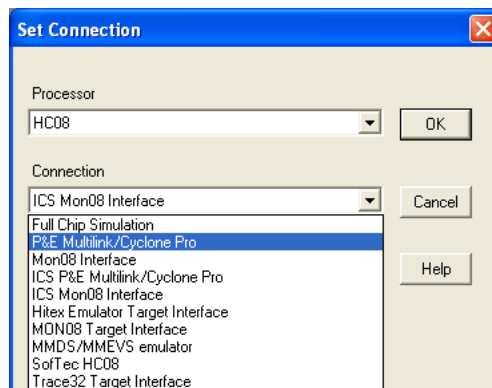

Figure 8-8: Set P&E Multilink/Cyclone PRO
1. Choose the P&E Multilink/Cyclone Pro option from the Set Connection dialog. See **Figure 8-8**